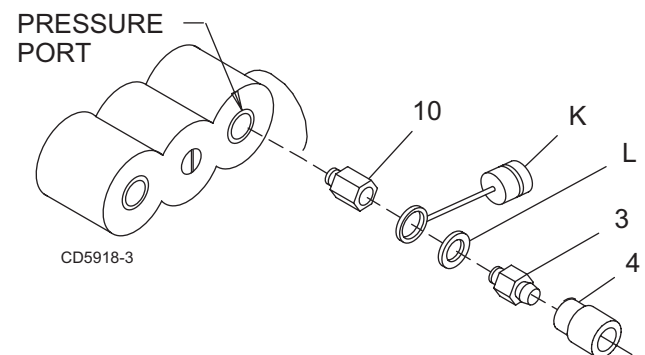

Figure 19 Pressure Fitting Installation
4. Install fittings, quick couplers, dust caps and colored bands to the hydraulic manifold PRESSURE port as shown in Figure 19.